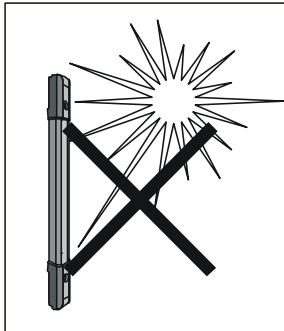

fig. 5
- In such a way as to prevent the receivers from being exposed to direct sunlight (fig. 5).